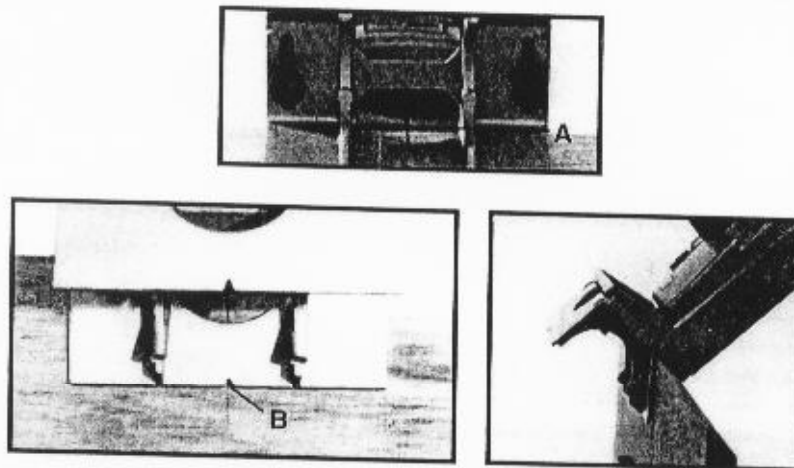

Fig. 13
5. Position machine to workpiece utilizing either guide notch (A) or (B) Fig. 13, to align machine with a groove centerline. Seat machine firmly onto workpiece.